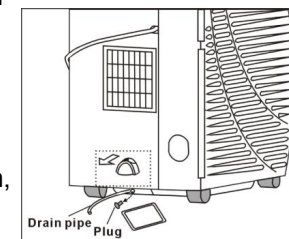

Fig. 13
* You can drain the water out with a drain pipe. It is included in the accessory. But first you should put some vessel like pan under the hose, then take out the plug on the drain mouth, thus the water will flow into the vessel and won't make the floor wet. (Fig.13) If the drainpipe is shorter than you need, you can purchase a pipe (9mmI.D.). Then connect it to the drainpipe with the drainpipe kit we supply.